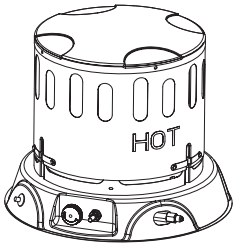

Figure 1
1. Remove heater from packaging. To protect your hands, put on gloves before lifting the outer shell. Never grasp bare metal without gloves. (See Figure 1)